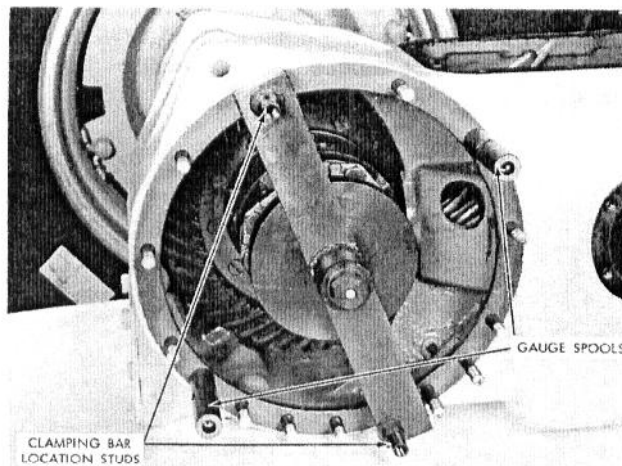

Fig. 82 - Clamping Bar and Gauge Spool Locations
8. Screw the two short gauge spools onto the center housing studs shown in Fig. 82. Tighten to 20 ft.-lbs. torque.